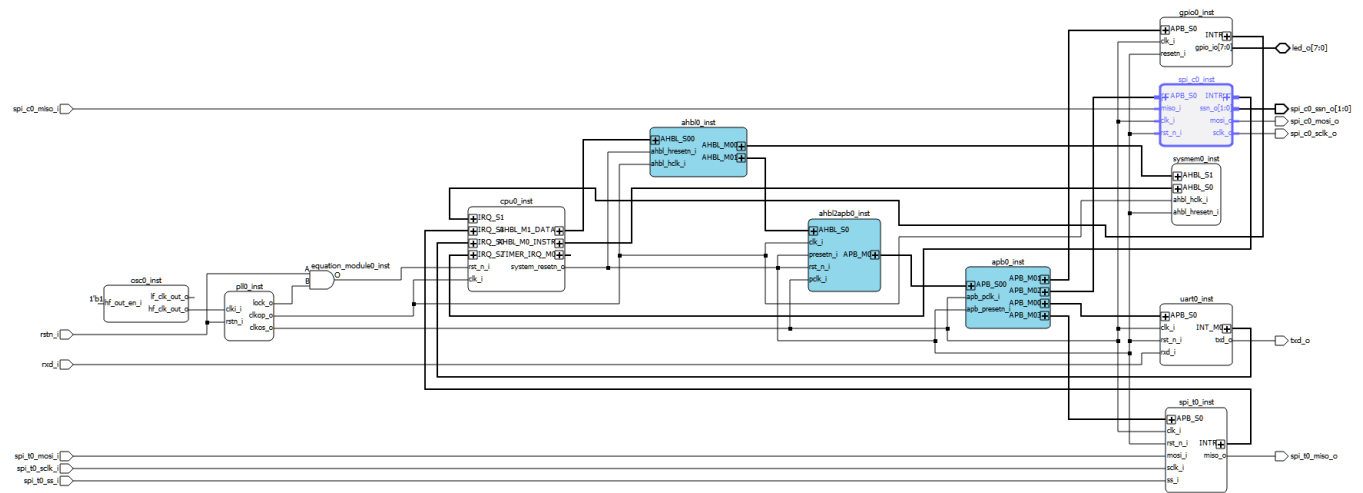

Figure 6.1. SPI Controller IP Example Design in Propel SoC Project
SPI Controller and SPI Target IPs are instantiated and connected in the project as shown in Figure 6.1. In this example, SPI Controller and SPI Target IPs are instantiated in the same system. In actual hardware or use case, you can connect the SPI Controller to external SPI Target devices.
9. Connect the instantiated IPs to the system. Refer to Figure 6.1 for the connections used in this IP. You will need to update other components of the system for clock and reset sources, interrupt, and bus interface.